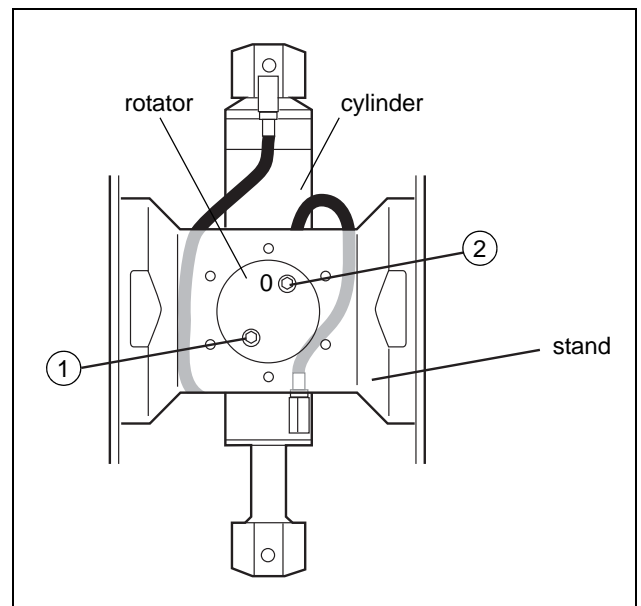

Fig. 8 Connecting the hydraulic hoses
Turn the rotator's hose connections in the direction as shown in adjoining figure. *See Fig. 8.*
4. Connect the hydraulic hoses. *See Fig. 8.*